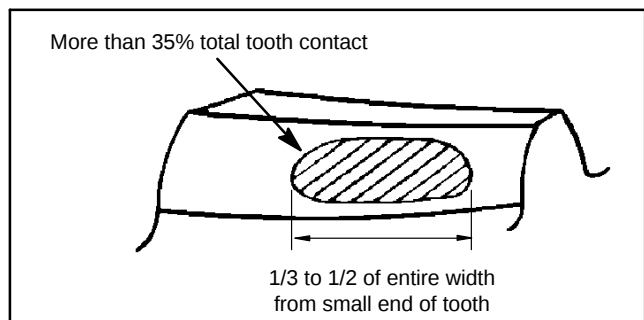

Figure 88
9. Ideal tooth contact should cover more than 35% of each tooth surface. The contact area should be in the center of each tooth and extend 1/3 to 1/2 way across each tooth from the toe (small) end (Fig. 88).